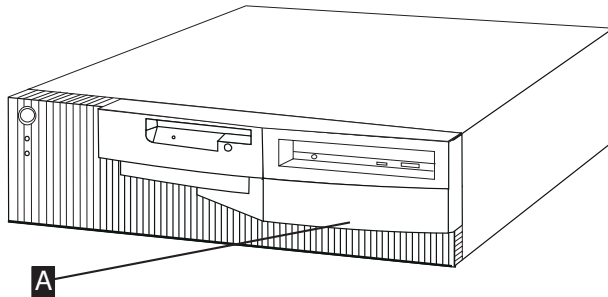

Figure 1-2. Installing Label on the Front Side of the Network Node Processor (6563)
2. Using label (PN 0782966), **identify** your Network Node Processor-A or Network Node Processor-B by sticking the appropriate label **A** on the front side of the unit (refer to Figure 1-2).